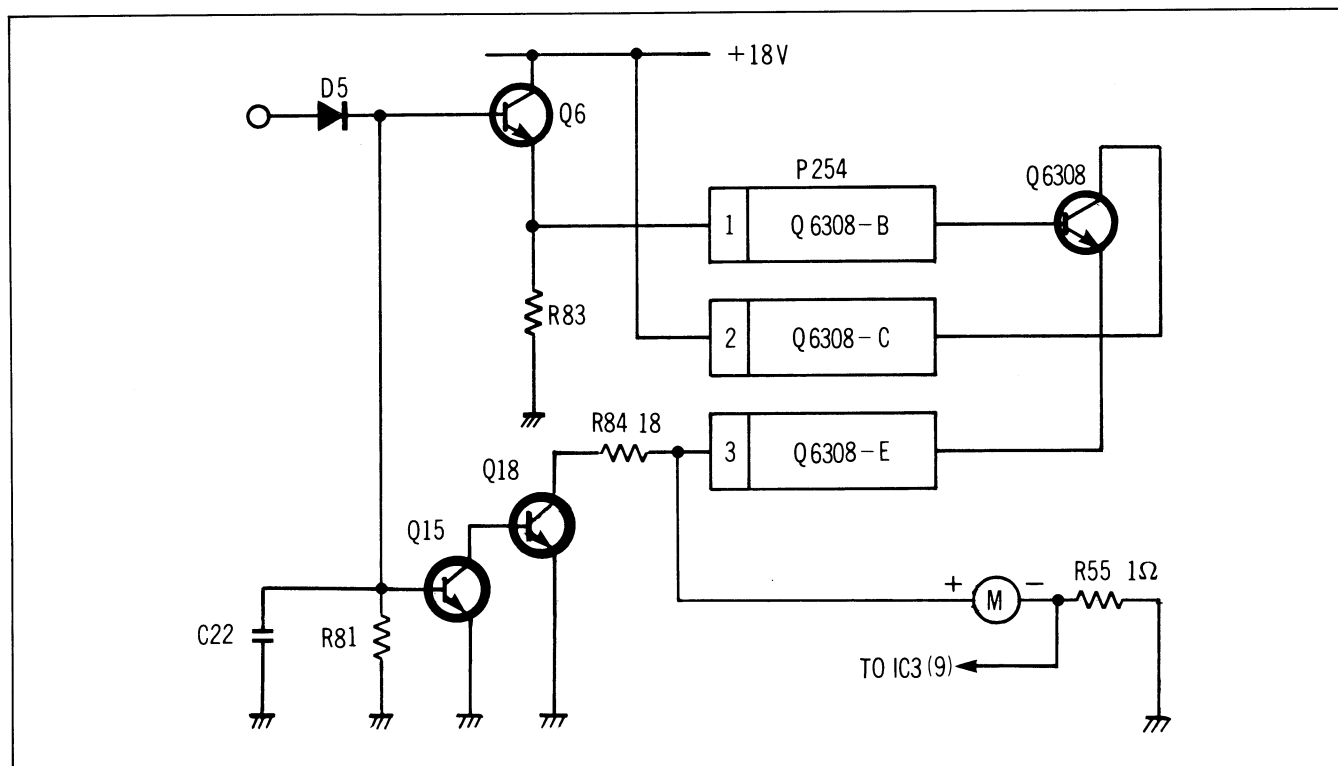

Figure 2-199
DC voltage at IC3-(10) is amplified and supplied to the reel motor drive circuit, shown in Figure 2-199.